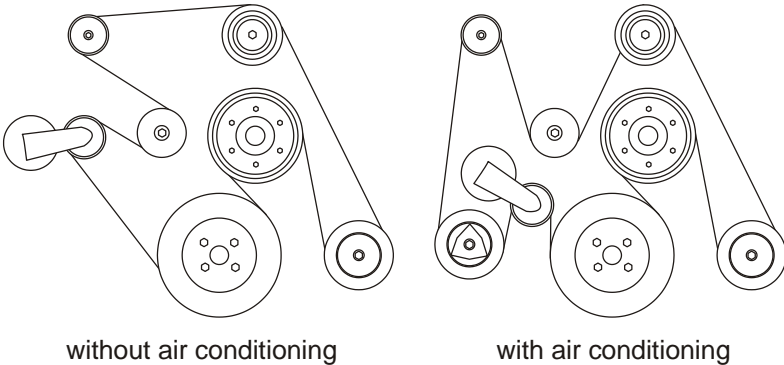

Figure 3.6
- ☐ Place the OEM crank pulley on the front of the crankshaft and rotate it to align it with the locating pin. Route the belt as per (Figure 3.6) but leave the belt loose.
- ☐ Check the OEM belt routing diagram for the correct installation (Figure 3.6).